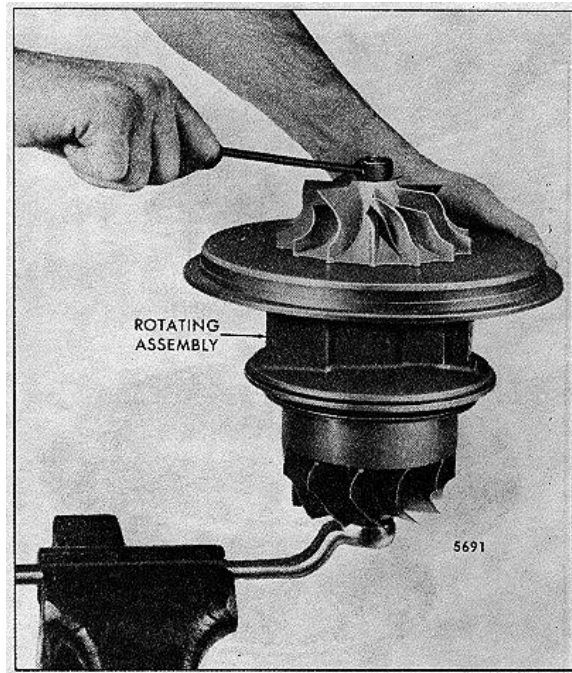

FIG. 4 - Removing Compressor Wheel Lock Nut
4. With the turbine wheel lug of the rotating assembly in a 1 " wrench (Fig. 4), remove and discard the compressor wheel lock nut.